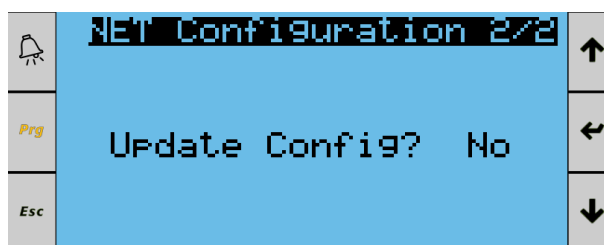

Figure 84. Settings Menu, Communications, Ethernet, Page 3
24. Set Update Config? To YES as shown in **Figure 84** below.